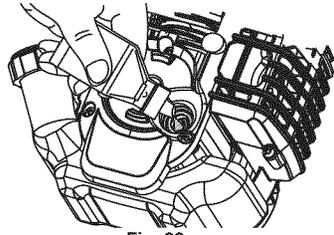
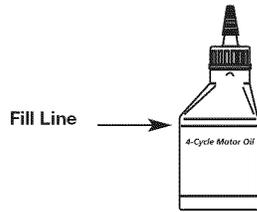

Fig. 22
Fig. 23
- NOTE:** Use the bottle and spout saved from initial oil fill to measure the correct amount of oil. The top of the label on the bottle measures approximately 3.04 fl.oz. (90 ml) (Fig. 23). Check the level, See Checking the Oil Level. If the level is low, add a small amount of oil and recheck. Do not overfill (Fig. 22).